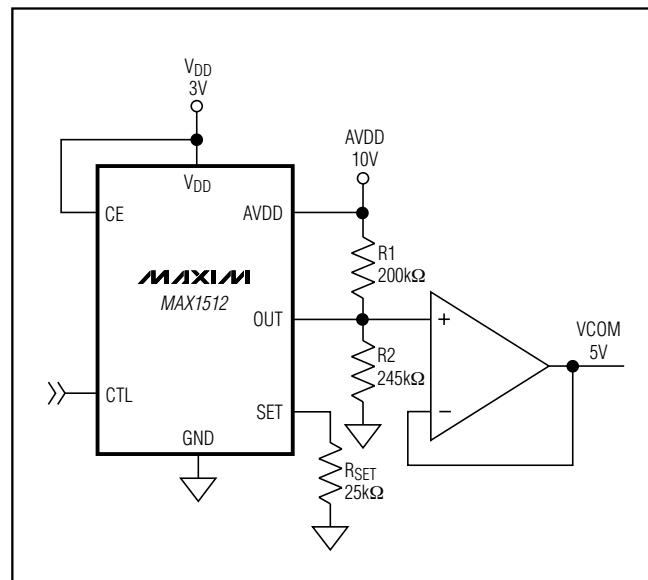
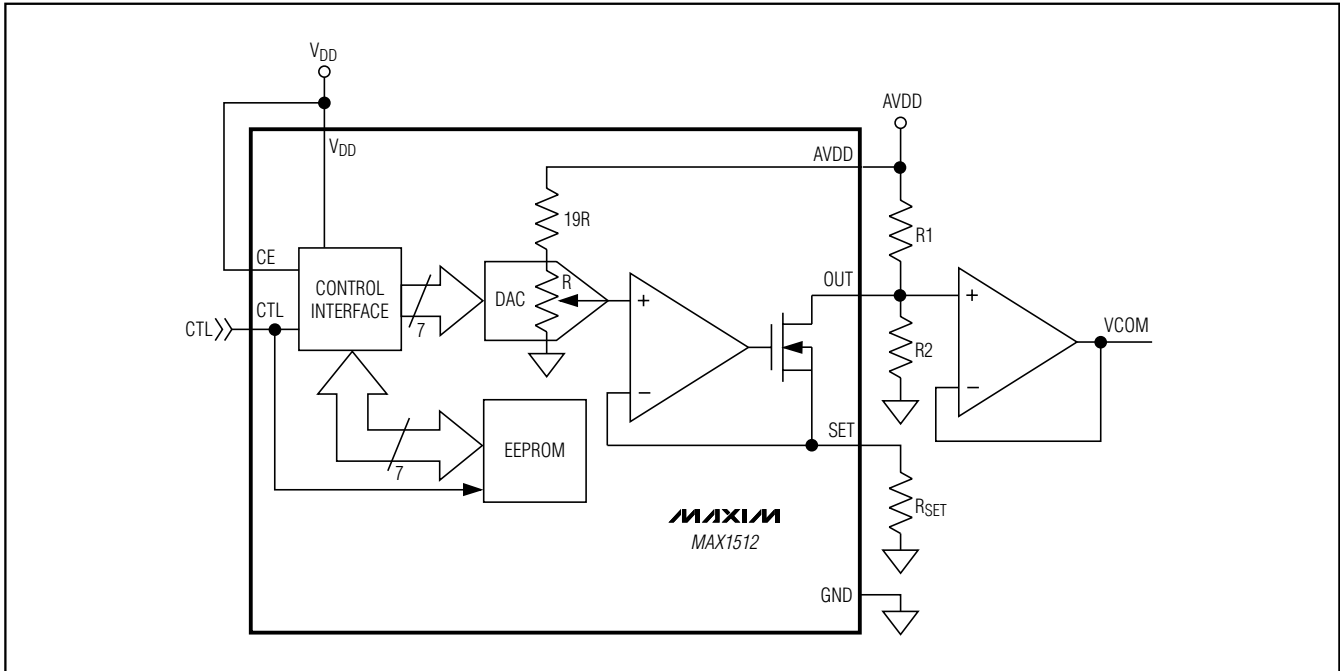

Figure 1. Standard Application Circuit
Figure 2. Simplified Functional Diagram
(Circuit of Figure 1,  $V_{DD} = 3V$ ,  $V_{AVDD} = 10V$ ,  $V_{OUT} = 5V$ ,  $R_{SET} = 30.1k\Omega$ ,  $T_A = 0^\circ C$  to  $+85^\circ C$ , unless otherwise noted. Typical values are at  $T_A = +25^\circ C$ .) (Note 1)
(Circuit of Figure 1,  $V_{DD} = 3V$ ,  $V_{AVDD} = 10V$ ,  $V_{OUT} = 5V$ ,  $R_{SET} = 24.9k\Omega$ ,  $T_A = +25^\circ C$ , DAC half scale, unless otherwise noted.)
The MAX1512 is a solid-state alternative to mechanical potentiometers used for adjusting the LCD backplane voltage (VCOM) in TFT LCD displays. The MAX1512 attaches to an external resistive voltage-divider and sinks a programmable current (IOUT), which sets the VCOM level (Figure 1). An internal 7-bit DAC controls the sink current and allows the user to increase or decrease the VCOM level (Figure 2). The DAC is ratio-metric relative to AVDD and is monotonic over all operating conditions. The user can store the DAC setting in an internal EEPROM. On power-up, the EEPROM pre-sets the DAC to the last stored setting. The single-wire interface between the LCD panel and the programming circuit adjusts the DAC, programs the EEPROM, and provides programming power.
- Place the VCOM buffer and the R1/R2 voltage-divider close to the OUT pin (Figure 1). Keep the VCOM buffer and the R1/R2 voltage-divider close to each other.